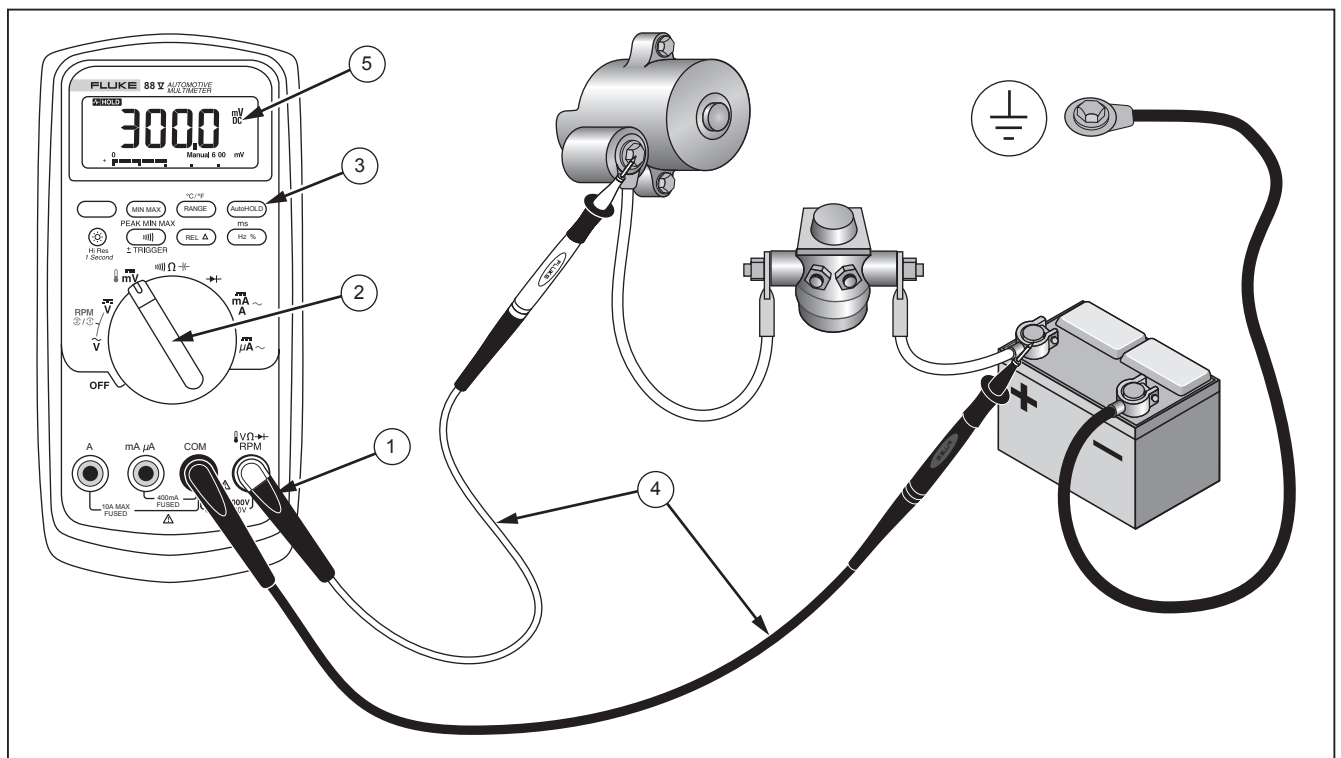

Figure 15. Measuring Starter Circuit Voltage Drop
1. Insert test leads in the input terminals shown in Figure 15.